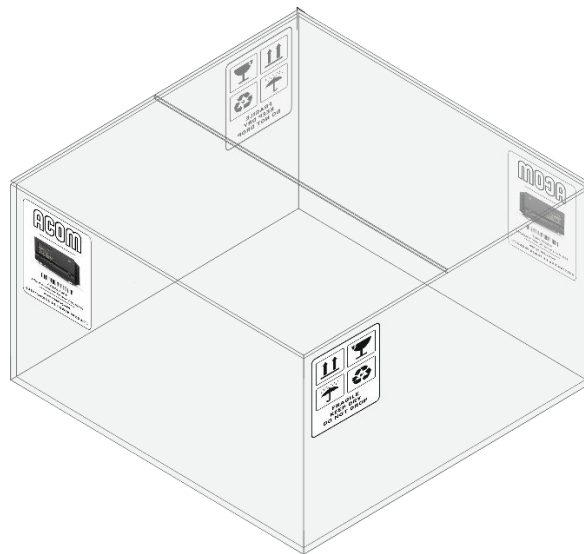
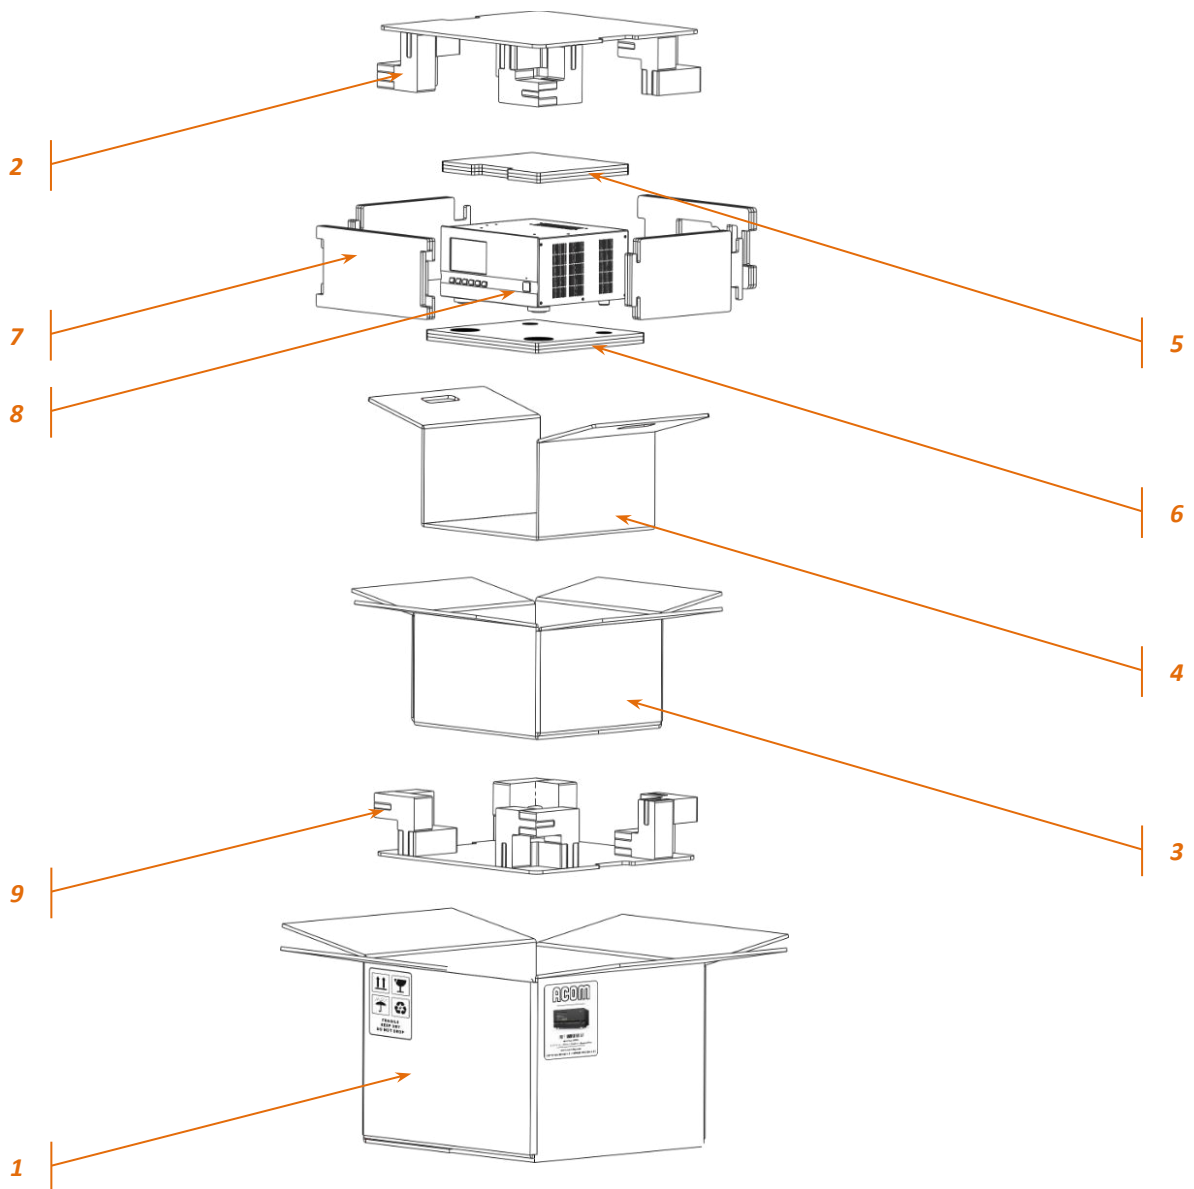

Figure 2-1 | Packaging carton (outside view)
Figure 2-2 | ACOM 500S packaged in a cardboard box
- Open the cardboard carton (see Figure 2-1 | Packaging carton \(outside view\) and Figure 2-2 | ACOM 500S packaged in a cardboard box, Pos. 1);
- Take out the top secure element (see Figure 2-2 | ACOM 500S packaged in a cardboard box, Pos. 2);
- Open the internal cardboard carton (see Figure 2-2 | ACOM 500S packaged in a cardboard box, Pos. 3);
- Take out the amplifier using handles of the middle secure element (see **Figure 2-2 | ACOM 500S packaged in a cardboard box**, Pos. 4);
- Take out the amplifier (Pos. 8) from the middle secure element and remove top, bottom, and sides flat secure elements (see **Figure 2-2 | ACOM 500S packaged in a cardboard box**, Pos. 5, 6 and 7);
It is not necessary to take out the bottom secure element (see **Figure 2-2 | ACOM 500S packaged in a cardboard box**, Pos. 9).